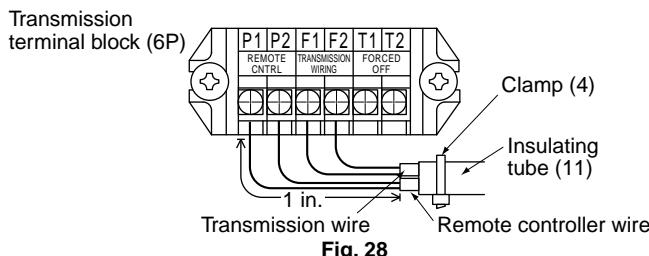

Fig. 28
- Add 2nd remote controller to the transmission terminal block (P1, P2) in the control box. (There is no polarity.) (Refer to Fig. 28 on page 11 and Table 4 on page 11)